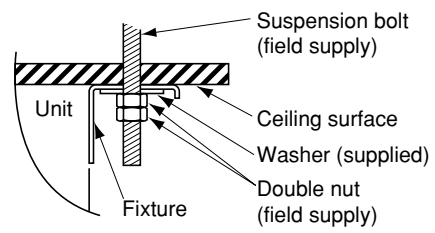

Fig. 3-73a
- (6) Carry out the preparation for suspending the indoor unit. The suspension method varies depending on whether there is a suspended ceiling or not. (Figs. 3-73a and 3-73b)
- (7) Suspend the indoor unit as follows: